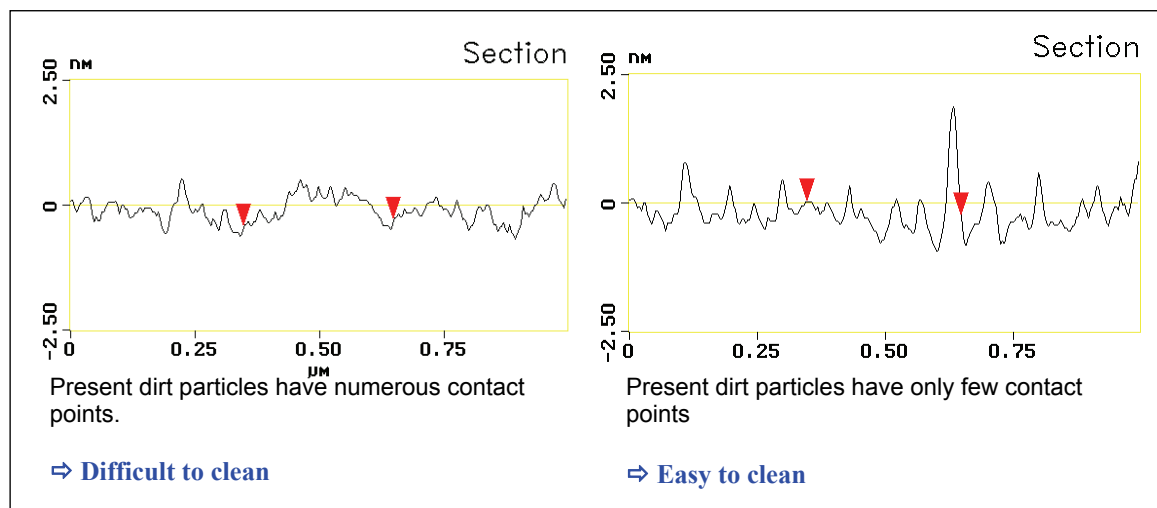

Fig. 7 NanoClean surface roughness
5.3 NanoClean / surface roughness (Fig. 7)